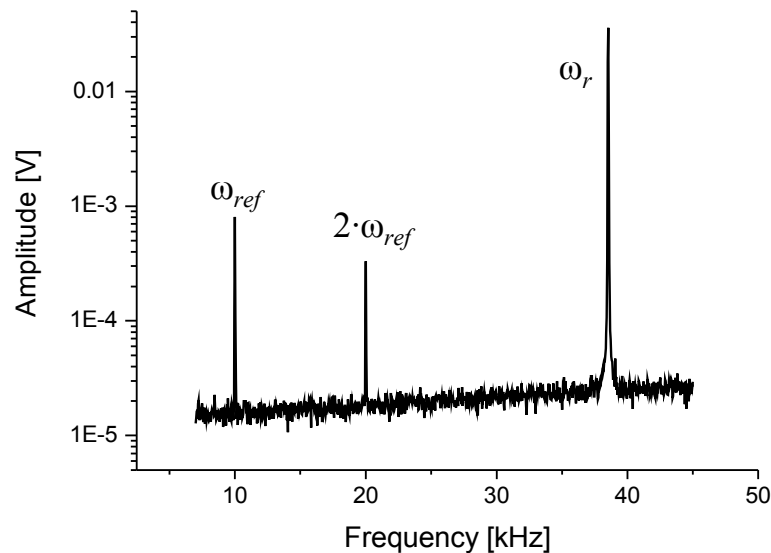

Figure 5: Frequency spectrum of the oscillating cantilever
Inserting equation (6) in (5) and using power-reduction formulae of trigonometric functions one can expect a force between tip and sample at the frequency ω_{ref} as well as at $2 \cdot \omega_{ref}$. Figure 5 confirms this prediction: It shows the frequency spectrum of the cantilever oscillation with clear signals at the mechanical excitation frequency ω_r and at the frequencies of the first and second harmonic of the electrical excitation.